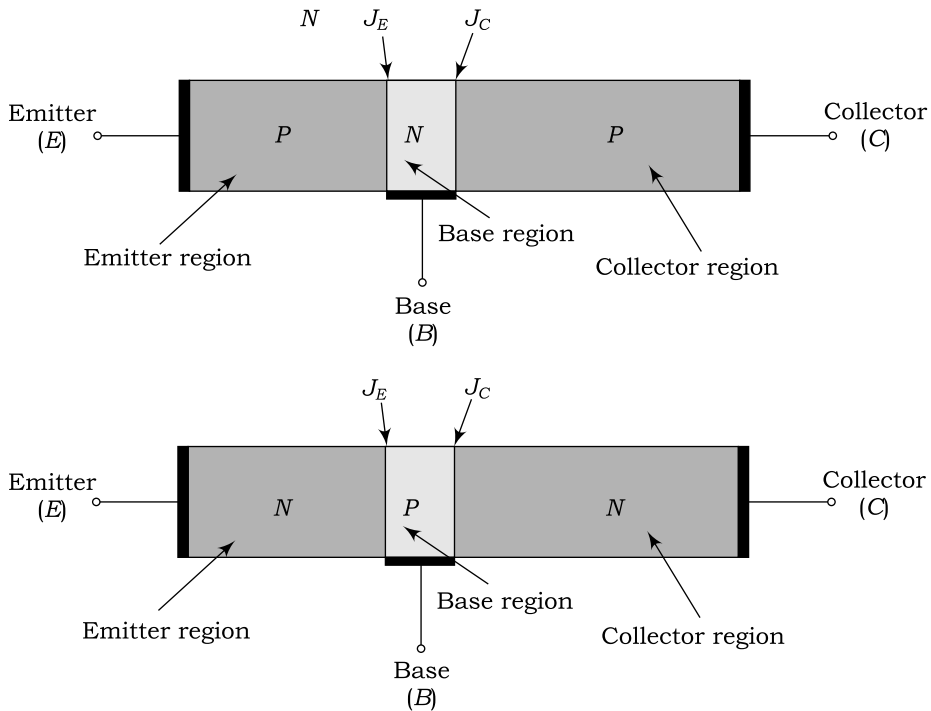

Fig. 2.1 Construction of (a) PNP transistors (b) NPN transistors
Figure 2.1(a) shows a *PNP* transistor and Fig. 2.1(b) shows an *NPN* transistor. It is clear from Fig. 2.1 that transistors have three regions known as Emitter (E), Base (B) and Collector (C).
1. Emitter (E)